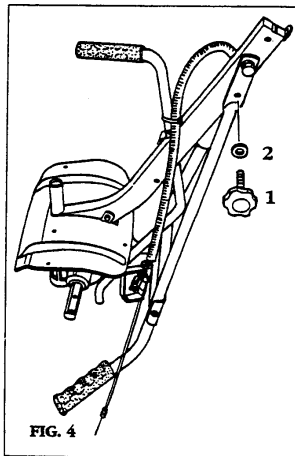

FIG. 4
- (FIG. 4) Remove handle lock bolt (1) and washer (2).